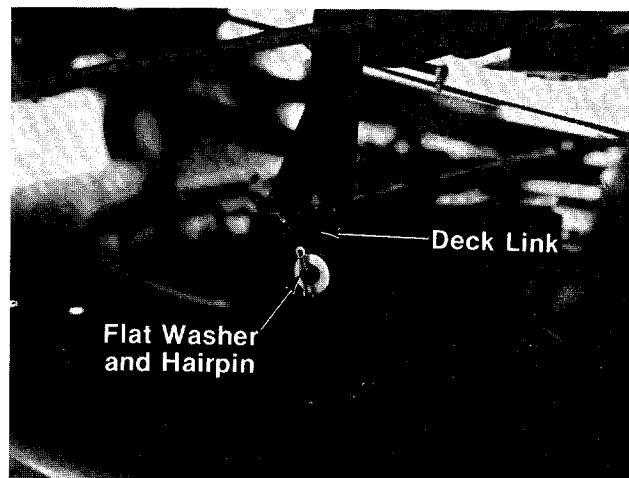

FIGURE 25.
9. Remove the three (3) hairpin cotters and flat washers which hold the deck links to the rider. Two (2) are located at the rear of the deck. See figure 25. One (1) is located at the front of the deck.